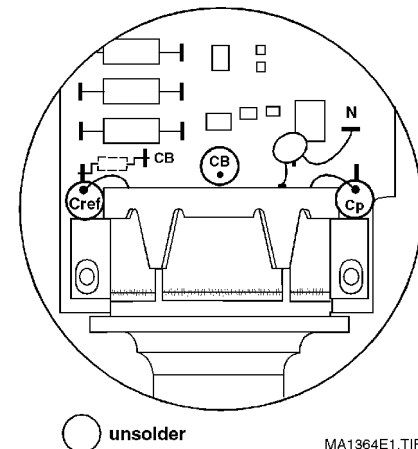

Fig. 25.
(see Fig. 25 and 26)
2. Unsolder the **wiring** between the measuring mechanism and the electronic unit - solder terminals **Cref**, **Cp** and **CB**. Observe soldering instructions! (Fig. 25).